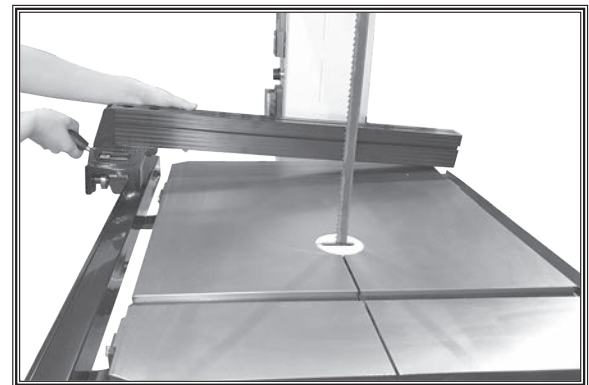

Figure 11. Installing fence onto rails.
16. Pull fence handle up and place fence on front fence rail, as shown in Figure 11.